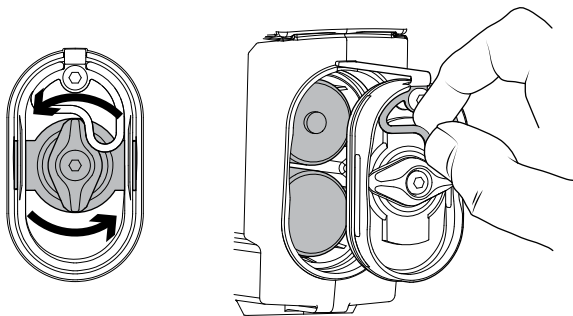

Figure 4: Removing the Battery Compartment Lid
- c. Unlock the Battery Compartment Lid by twisting the Battery Lock Lever counter clockwise one-quarter turn. Once unlocked, pull the lid away from the Battery Compartment [the lid will stay attached by a tether as shown in Figure 4].